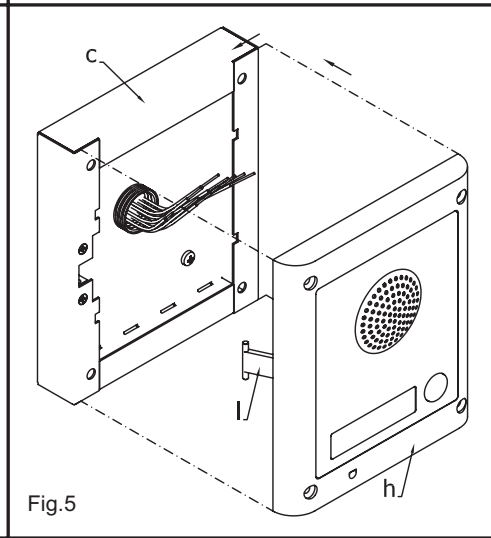
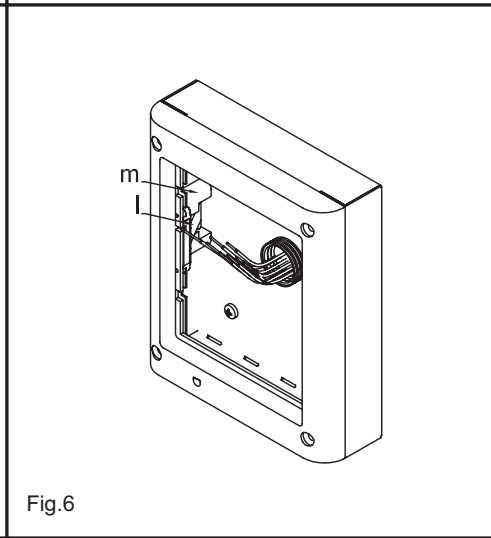

Fig.5
Fig.6
5. As shown in figure 5, hook the module support frame **h** (complete with modules) to surface box **c** moving the frame as suggested from pointers. Ensure that the pivot **l** (fig.5) goes inside the relevant housing **m** as shown in figure 6.